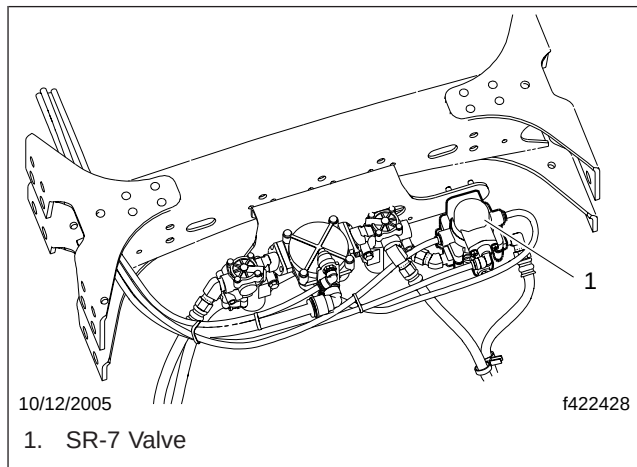

Fig. 1, SR-7 Spring Brake Modulating Valve Installation (typical)
3. Identify all air lines attached to the valve, for re-installation. See Fig. 1 for a view of a typical installation, or access EZWiring for vehicle-specific plumbing diagrams.